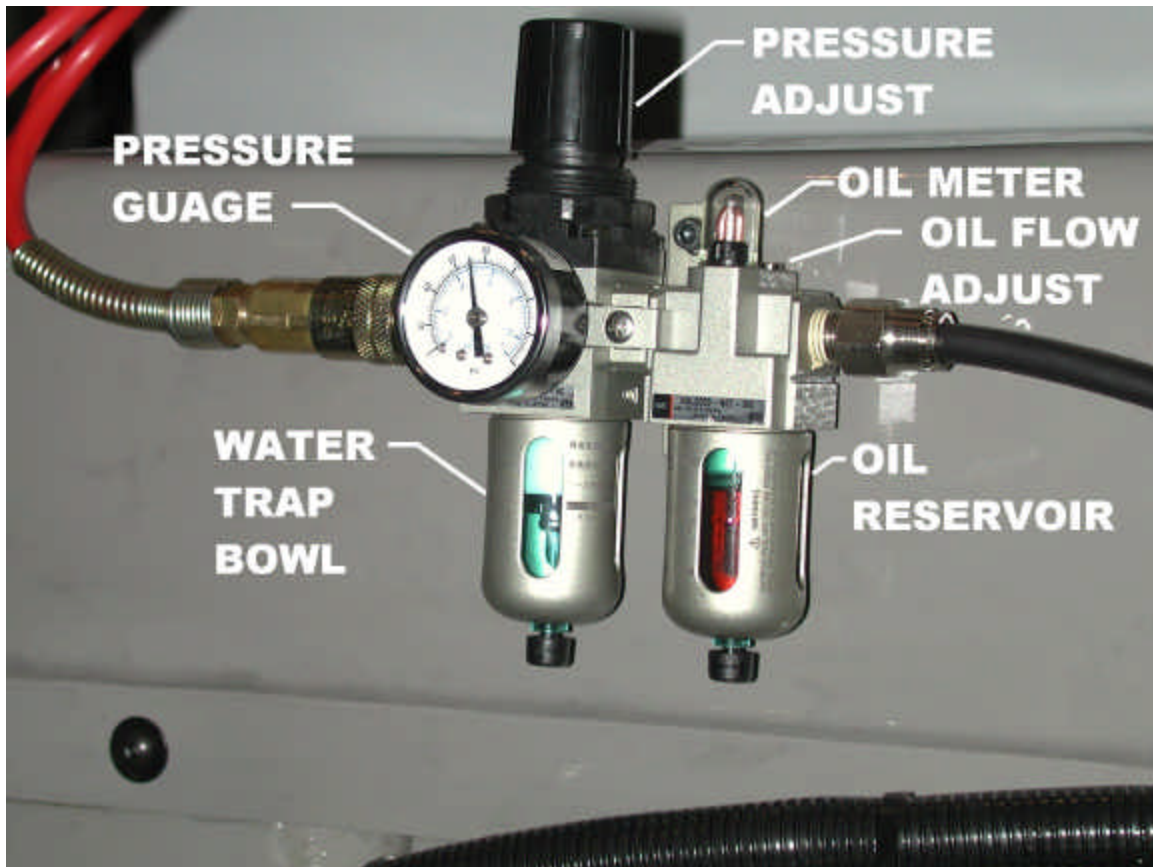

Figure 4-1
- Check and fill the oil reservoir located on the air regulator separator / oilier, be sure to use air tool oil. (See figure 4-1)
- Drain water from the water trap bowl located on the air regulator separator / oilier. (See figure 4-1)
The air regulator oiler that comes on the GL CNC series machines is equipped with an automatic water separator, the water trap bowl will drain the water collected automatically when the air supply is disconnected or turned off. The recommended operating air pressure for the GL CNC machine is 95 – 100 PSI or 6.5 – 7 Kg/cm2. To adjust the air pressure pull up on the Pressure Adjuster knob (See figure 4-1) until it is free of the lock then turn the knob clock wise to increase the pressure or counter clock wise to decrease the pressure, When the required pressure is set, lock the knob in place by pushing down on the knob.